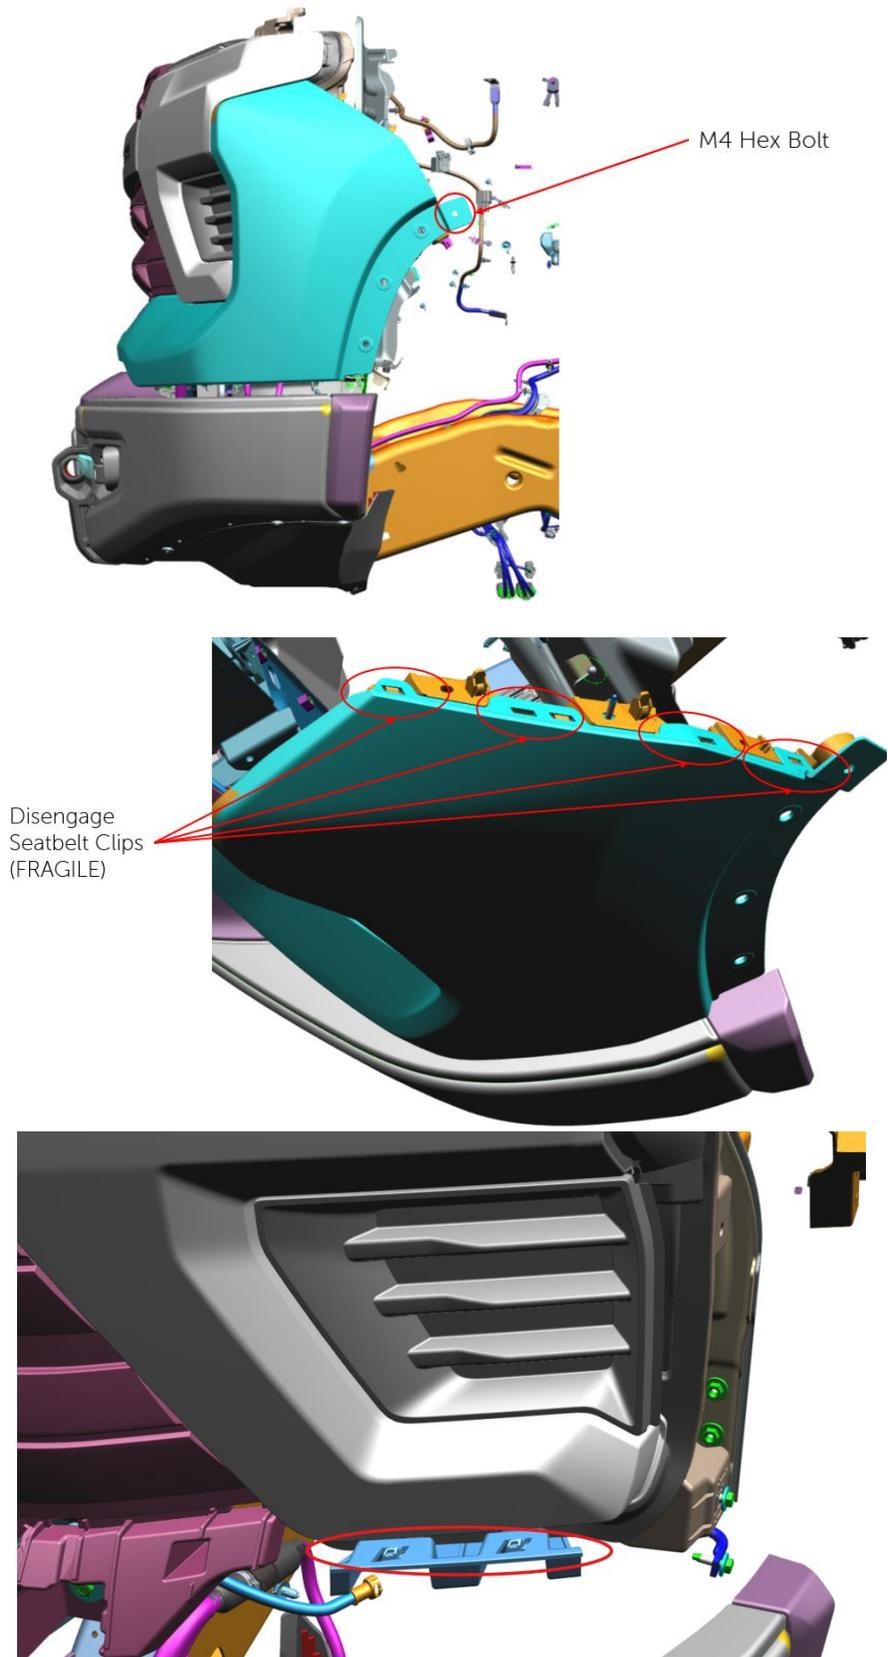

Figure 8
E. Disengage 'seatbelt' clips from grille fascia, fender, and headlamp. – See Fig. 8